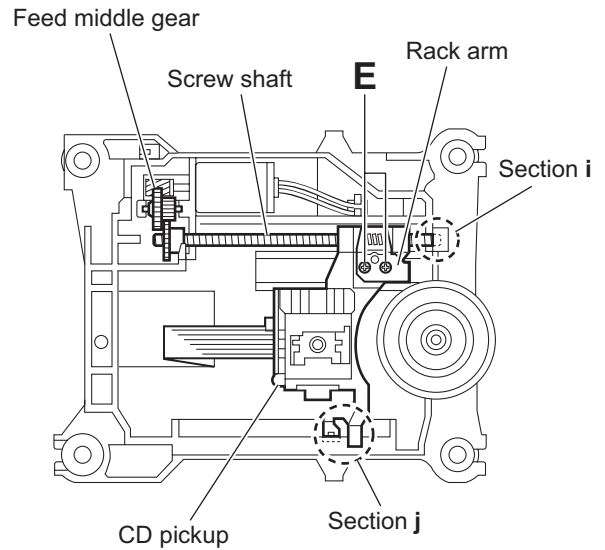

Fig.8
- (3) Remove the two screws **E** attaching the rack arm and take out the rack arm. (See Fig.8)
- (4) Remove the feed middle gear and remove the screw shaft of the CD pickup from the section **i** on the traverse mechanism assembly. (See Fig.8)
- (5) Remove the CD pickup from the section **j** of the traverse mechanism assembly and take out the CD pickup with the screw shaft. (See fig.8)
- (6) Pull the screw shaft out of the CD pickup. (See Fig.8)
- (2) Attach the shaft. (See Fig.8)
- (3) Align the CD pickup to the section **j** of the traverse mechanism assembly first, and set the screw shaft of the CD pickup in the sections **i** of the traverse mechanism assembly. (See Fig.8.)
- (4) Attach the rack arm and feed middle gear. (See Fig.8)
3.3.4 Removing the flywheel (See Fig.8, 9)